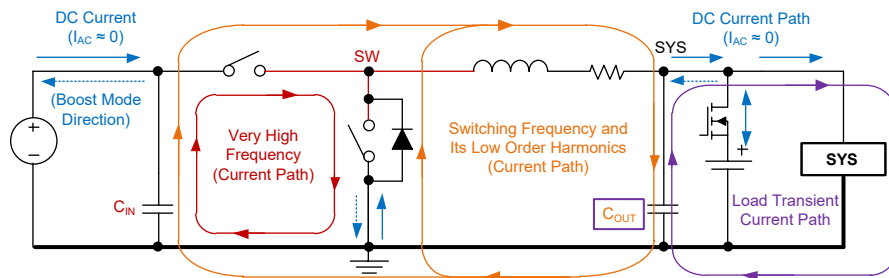

Figure 21. The Paths and Loops Carrying High Frequency, DC Currents and Very High Frequency (for Layout Design Consideration)
The switching node (SW) creates very high frequency noises, which are several times higher than f_{sw} (1.5MHz) due to sharp rise and fall of the voltage and current in the switches. To reduce the ringing issues and noise generation, it is important to design a proper layout for minimizing the current path impedance and loop area. A graphical guideline for the current loops and their frequency content is provided in Figure 21. The following considerations can help to make a better layout.